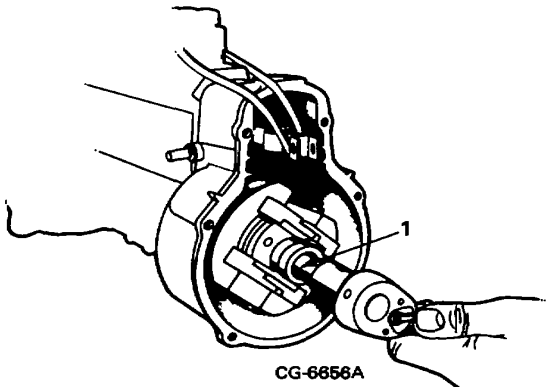

Figure 14. Removing Cylindrical Nut
11. Using KDEP 2988 remover tool on slotted cylindrical nut and holding the camshaft with a wrench at the front of the pump to keep it from rotating, remove the cylindrical nut (Figure 14) and spacer shim under the nut.